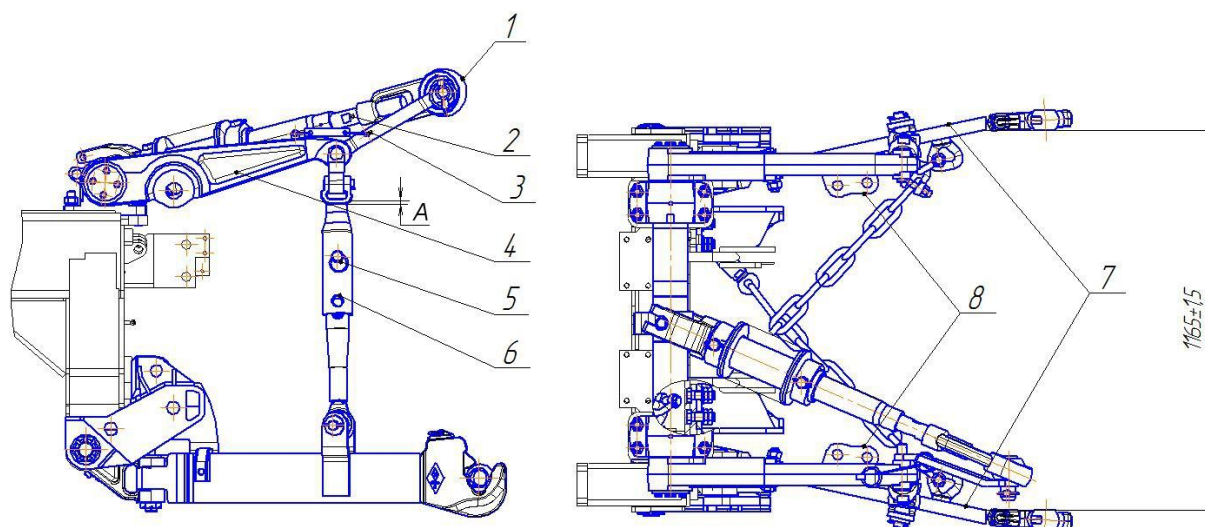

Fig. 31 Linkage
- c) lift lower links 7 (Fig. 31) by means of hydraulic cylinders until the locks actuate;
When connecting mounted or semi-mounted agricultural machines and implements, the length of vertical strut 6 (Fig.31) shall be minimum to ensure the maximum traffic clearance.
Hydraulic hook provides for connection of the tractor to vehicles and process transport carriers. The connection by means of a hydraulic hook installed under platforms 8 (see Fig.31) of the linkage shall be implemented as follows:
When hooking up with a mounted plow, in order to provide for the floating mode, pins of vertical struts of the linkage shall be installed in a manner allowing them to pass through lower holes of outer, and longitudinal grooves of inner pipes of vertical struts (open strut). In doing so, dimension A (Fig.31) on the top and on the bottom shall not exceed 60 mm.